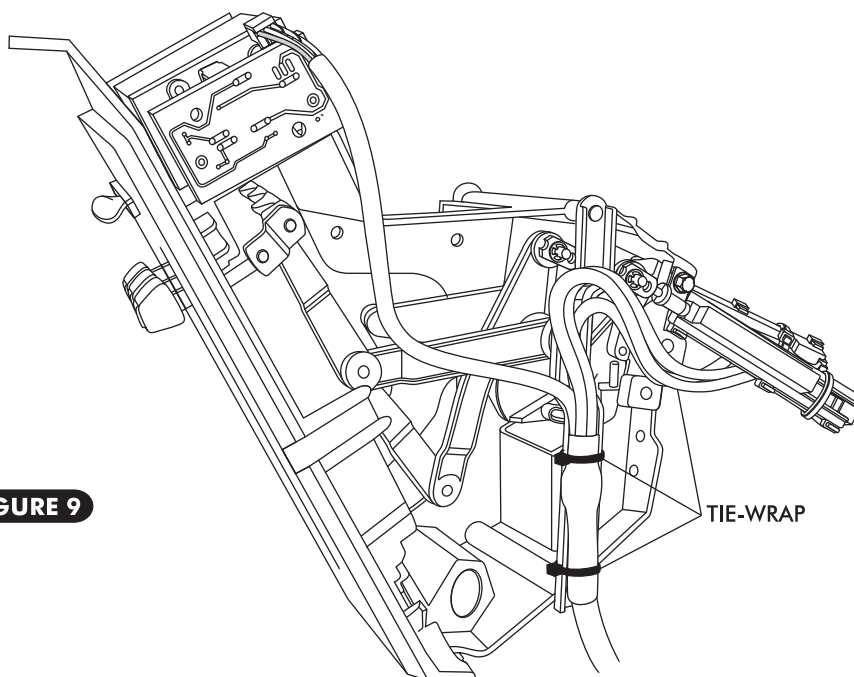

FIGURE 9
- USING THE SUPPLIED TIE WRAPS, TIE THE WIRES TO THE CONTROL PANEL AS SHOWN IN FIGURE 9 BELOW. CONFIRM THAT WIRES ARE SECURED AND DO NOT INTERFERE WITH LEVER OPERATION OR CABLE CONVERTER ASSEMBLY.